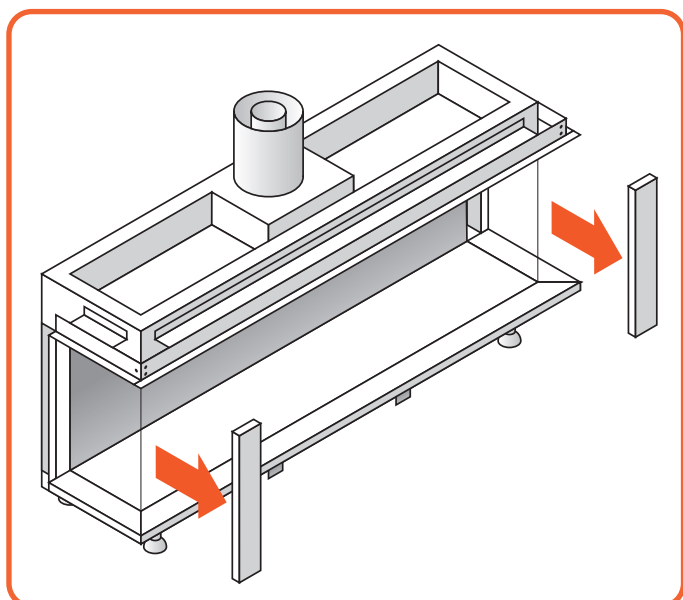
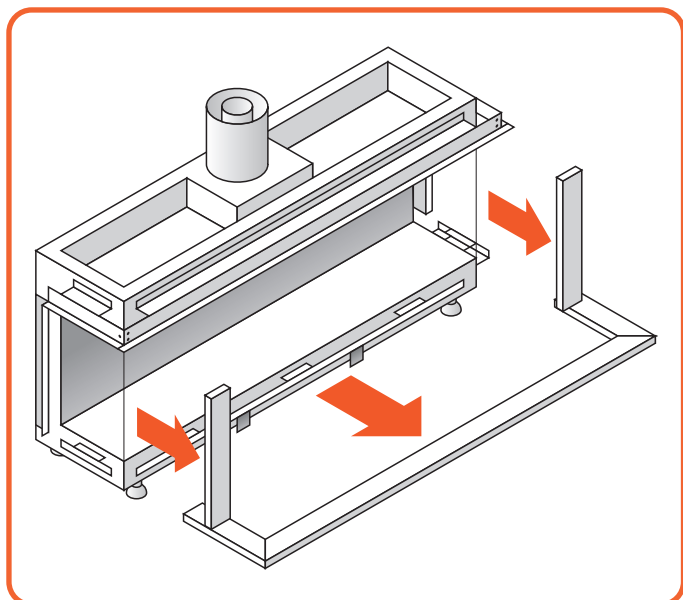

Figure 9.2 | Remove side trims
Figure 9.3 | Remove Lower Trims
- Remove both the side trims and bottom trim. They are held by magnet snappers, Figure 9.2 & Figure 9.3.